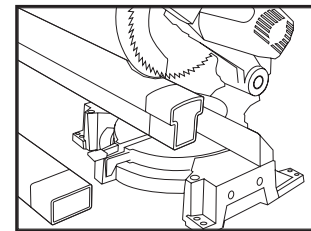

Fig. 2
3. Lay the bottom rail beside the posts or other mounting surfaces with the baluster holes facing upward. The rail should extend past the mounting surface on each side. Be sure to place the first baluster hole on each end of the rail the same distance from the mounting surface. **NOTE: If the baluster holes fall inside or directly beside a mounting surface, slide the rail approximately 2" in either direction to align baluster holes evenly between mounting surfaces. When you have positioned your rail properly, mark and cut. (FIG.2)**
4. Lay top rail beside bottom rail, making sure your baluster holes are aligned. Once properly aligned, mark and cut to match bottom rail length. (FIG.2)